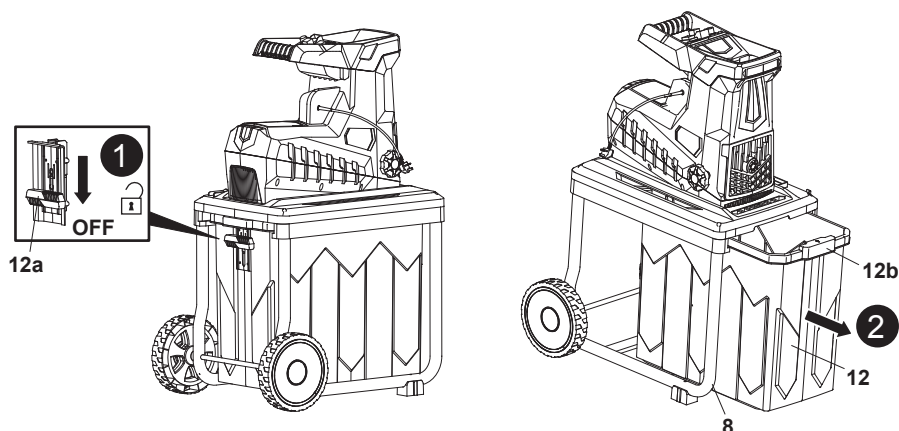

Fig. 9
5. Fully press down the interlock switch (12a) to position “OFF” (Fig. 9, step 1), hold the recessed grip (12b) and carefully pull the collection box (12) out of the frame (8) (Fig. 9, step 2).